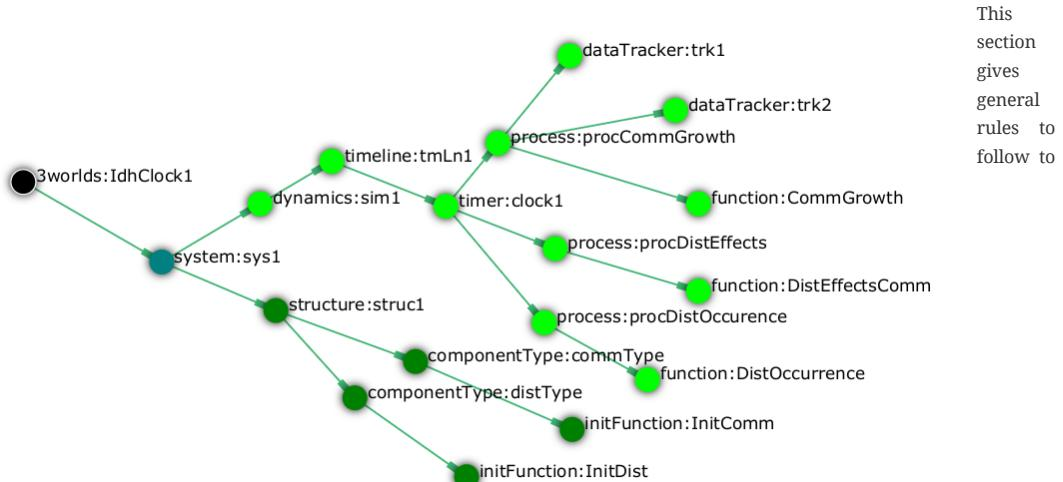

Figure 25. The functions defined in the model of the IDHClock tutorial.
For each `function` node of the specification, you will find one static method with the same name in the *model main class*. For example, the **IDHClock** tutorial (Section 5.4) specifies 3 functions, 2 `initFunctions` and 2 data trackers (Figure 25).
- the package name `code.sys1` is constructed from the name of the `system` node (Figure 25);
- the interface name `IdhClock1` is constructed from the name of the `3Worlds` node (Figure 25);
- each method name is constructed from a matching `function` or `initFunction` node (Figure 25).